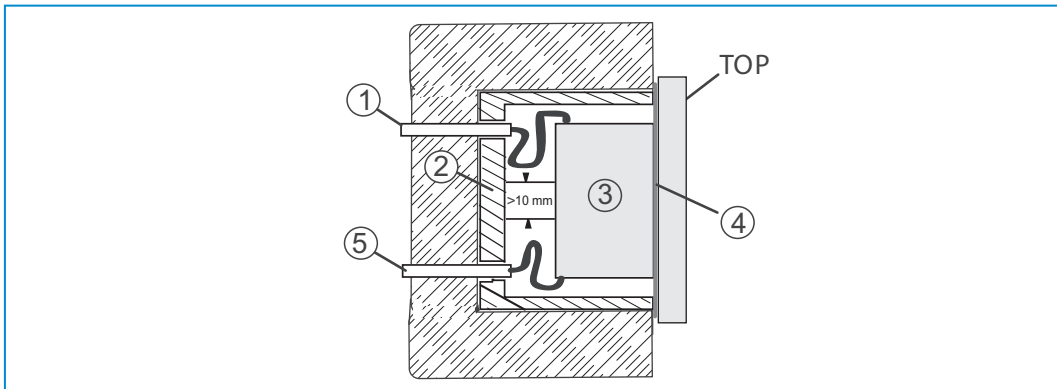

Fig. 8: SELV power circuits
- » Observe the spatial division (> 10 mm) of SELV electric circuits to other electric circuits during mounting (see Fig. 8).